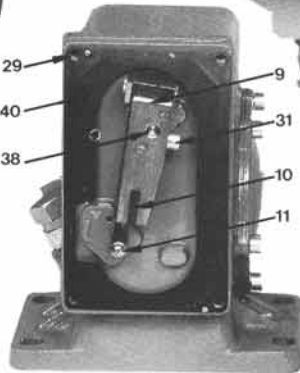

Fig. 5
The large welt on the membrane should then fit in the groove in the housing. Check this when fitting the membrane support. Now replace the cover, noting that it is guided by the membrane support and that the screwholes in the cover are asymmetric to ensure the correct positions of the support and the cover. After fitting the membrane, check the zero position and the contact change-over. The actuator (9) is to be secured to the shaft so that the spring is pretensioned 0.5 mm, measured at the support roller (11). *Refer to Fig. 5.*
Replacing the sealing hose *Refer to Figs. 5 and 9.*
Fit actuator (9) and secure it to the shaft (38). *Figs. 5 and 9.* Push the centre (38) inwards when fitting so that the membrane (21) rests with the welt in the groove of the housing without being stretched. At the same time, the leaf spring (9) is to